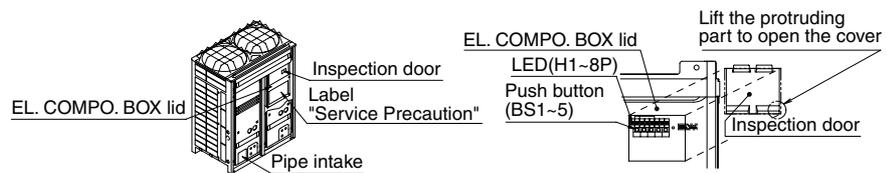
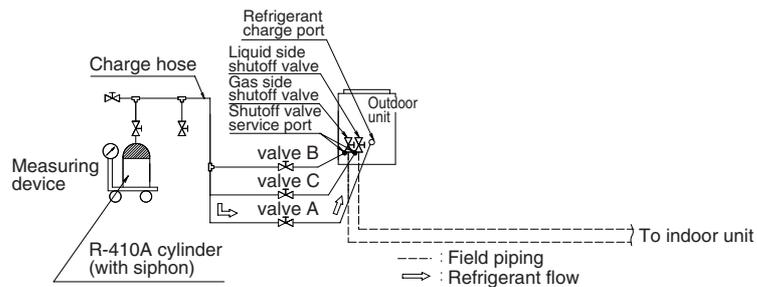

fig 32
fig 33
- 4 Perform the refrigerant charging operation following [Refrigerant charging operation procedure] as shown on page 4-26, and charge the remaining refrigerant of the “additional charging amount”. For performing the refrigerant charging operation the push button on the PC-board (A1P) of outdoor unit are used. (See the figure 32) In addition, the refrigerant are charged from the refrigerant charge port via the valve A. (See the figure 33) For operating the push button and opening and closing the valve, follow the work procedure.
The refrigerant will be charged about 22kg in one hour at outdoor temp. 30°C DB (6kg at 0°C DB). If you need to speedup in case of multi system, connect the refrigerant cylinders to each outdoor unit as shown in the figure 33.
- 1 Open the liquid and gas side shutoff valves (The valve A~C must be closed. The valve A~C means the valves in the figure 33.)